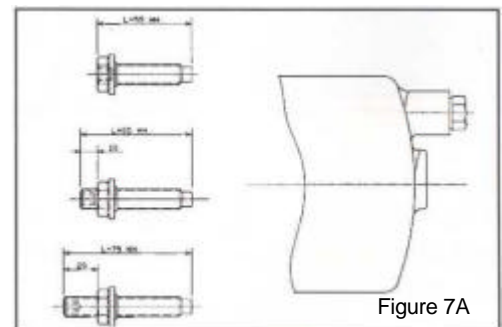

Figure 7A
2. Figure 7A If a new poppet adjusting screw and nut are being installed, adjust the locknut on the screw according figure 7A or 7B. Before adjusting the locknut you need to verify the shape of the housing (31) in the poppet screw area, present on the gear installed into the vehicle. See also figure 7A and 7B.